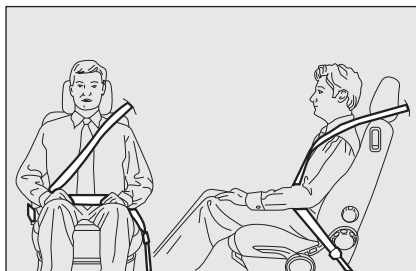

fig. 6
*The belt must not be twisted. The upper part must cross the shoulder and the chest diagonally. The lower part must adhere to the hips **fig. 6**, not to the abdomen. Do not use devices (clips, etc.) to hold the seat belt away from your body.*